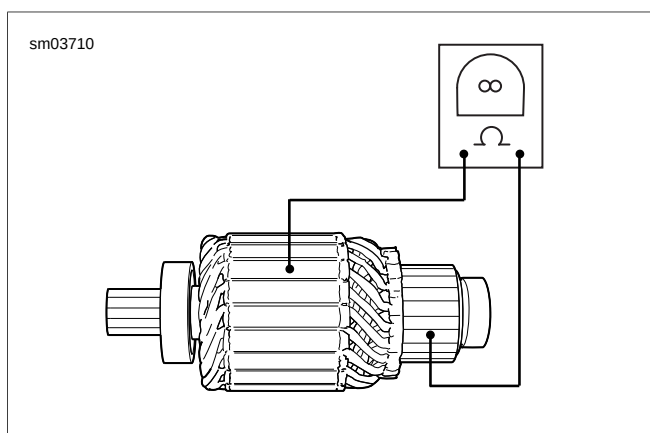

Figure 1-13. Grounded Armature Test
5. See Figure 1-13. Check for a GROUNDED ARMATURE with an ohmmeter or continuity tester.